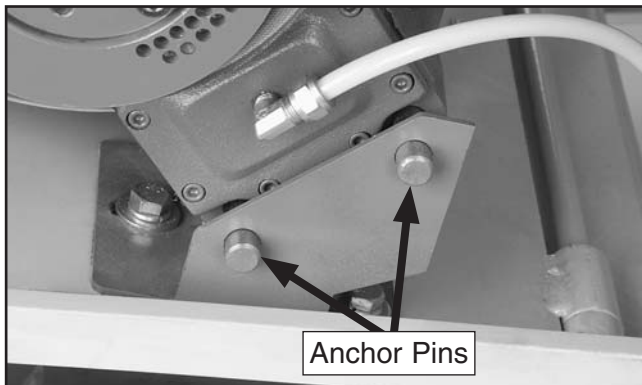

Figure 48. Disc brake assembly.
Eventually the brake pads will wear out. Checking and replacing these is a simple procedure that can be done in the shop, with the exception of having the rotor resurfaced on a lathe. The brake pads are located underneath the rotor as shown in **Figure 48**, which is attached to the motor arbor.
2. Remove the nuts and washers from the two anchor pins on each brake caliper (**Figure 48**).